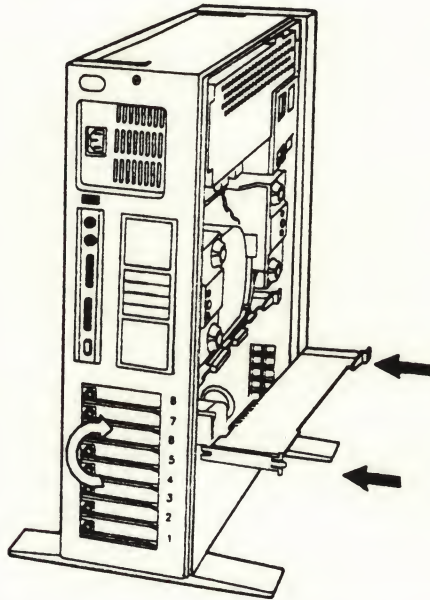

Figure 3-22 Installing the Tape Controller Card in the Model 60
16. Install the tape controller card into your expansion slot as shown in Figure 3-22.